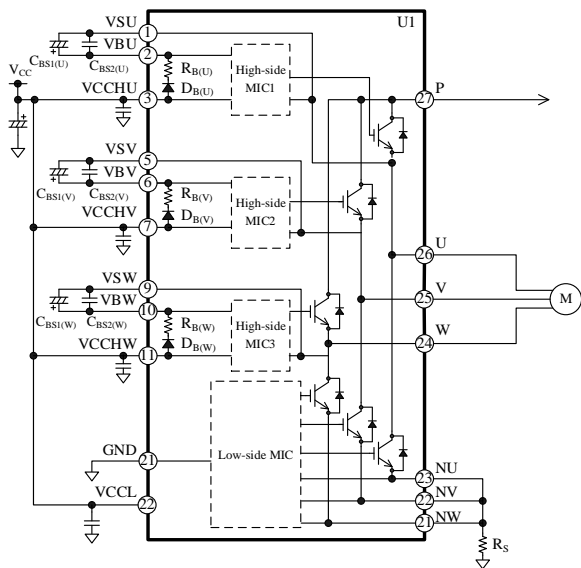

Figure 13-1. Bootstrap Circuit
As Figure 13-1 shows, bootstrap diodes, DB(x), and current-limiting resistors, RB(x), are internally placed in series between the VCCHx and VBx pins. Time constant for the charging time of CBS1(x), τ, can be computed by Equation (3):